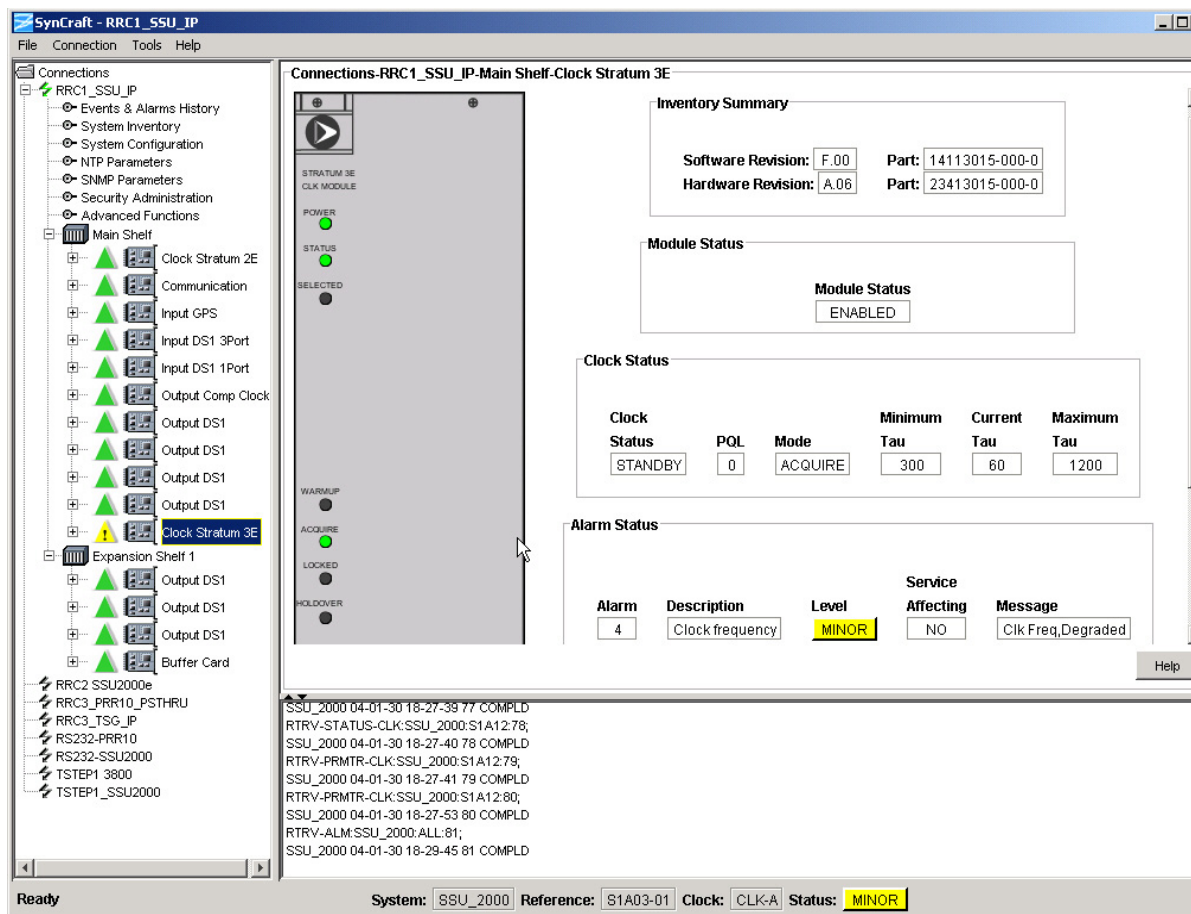

Figure H-16. Upgraded Clock Module Status
19. Wait five minutes and open a connection to the SSU-2000e you just upgraded. Select the Main shelf and then the newly-upgraded Clock module. A screen similar to Figure H-16 appears.